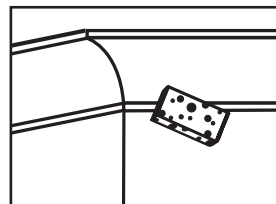

FIGURE 17
- Wipe down the cornice with a wet sponge. [Figure 17]